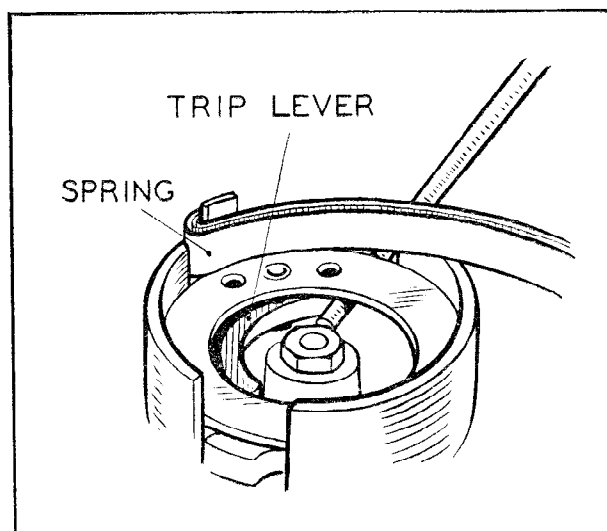

Fig. 11.
- (vii) Hook the outer end of the impulse spring into the narrow slot in the impulse starter body and wind up the spring until the projection on the body engages with the recess in the driving plate, see Figs. 11 and 12.